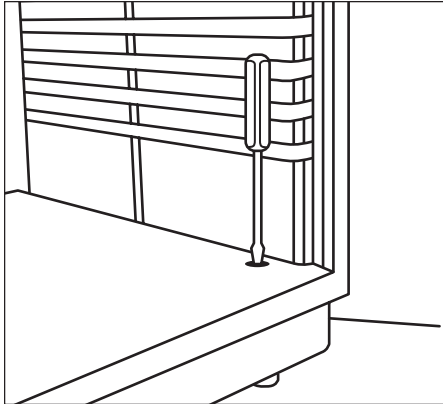

Fig. 1
4. Insert the screwdriver down into a hole (Fig. 1). By turning the screwdriver clockwise, the unit can be raised. By turning counterclockwise, the unit can be lowered. **Unit is shipped with the leveling feet fully retracted.** Unit can be raised up to 2" (51mm) at each corner.